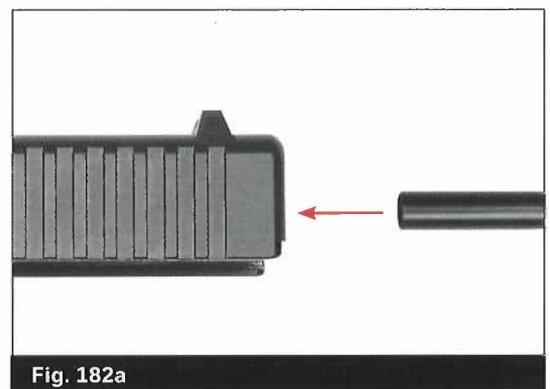

Fig. 182a
- The Firing pin channel liner is located inside the firing pin channel and normally should remain in the channel. Should it separate during cleaning and it is not damaged, simply insert with beveled edge toward breech. If it is damaged replace it with a new channel liner. Removal is not recommended. However, if removal is needed use a 5/16 inch bolt. (Fig. 182a)